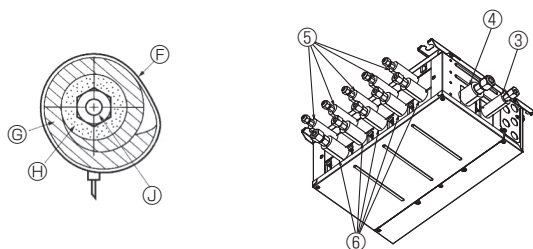
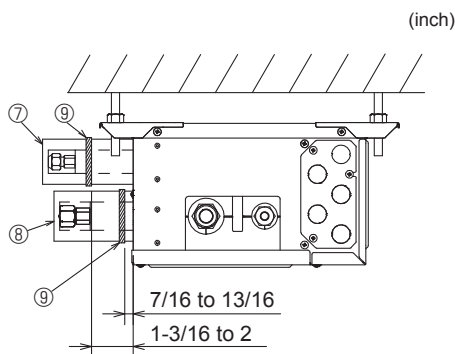

Fig. 7-4
Fig. 7-5
- Insulate the liquid and gas pipes of the branch box by attaching the heat-resistant polyethylene foam tightly around them. (Fig. 7-4)
- (5) Press the pipe covers ③ and ⑤ on the liquid piping against the unit and wrap to hold in place. (Fig. 7-4)
- (6) Press the pipe covers ④ and ⑥ on the gas piping against the unit and wrap to hold in place. (Fig. 7-4)
- (7) Apply the supplied bands ⑨ at a position 7/16-13/16 inch (10 - 20 mm) from each end of the pipe covers (③④⑤⑥).
- (8) If the indoor unit is not connected, fit the supplied pipe covers (with caps, ⑦ and ⑧) to the branch box refrigerant piping connections against the unit to prevent condensation dripping from the pipes. (Fig. 7-5)
- (9) Clamp the pipe covers (⑦⑧) in place with the supplied bands ⑨.
- ③ Band (3.1. Accessories No. ③)
- ④ Pipe covers (3.1. Accessories No. ③④⑤⑥)
- ⑤ Thermal insulation for refrigerant piping
- ⑥ Refrigerant piping
7.2. Handling of ports that are not connected to outdoor unit (Fig. 7-5)